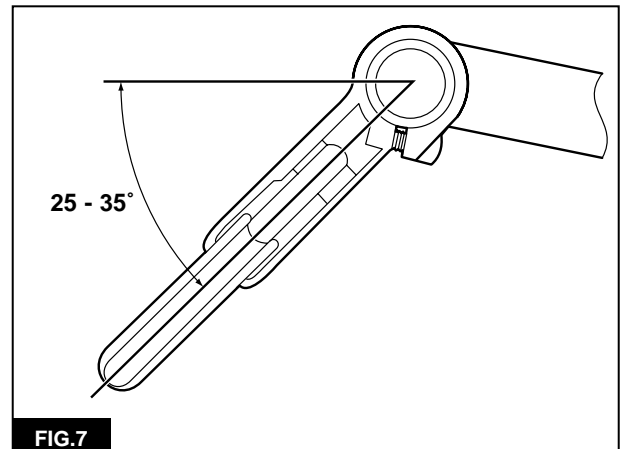

FIG.7
- c. Rotate the brake lever so it forms a 25~35° angle with a line that parallels the floor (**Figure 7**).